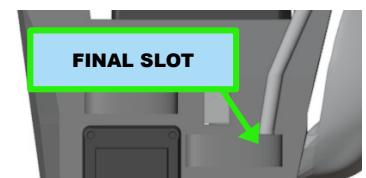

Figure 5.25: Inserting the tube into the final slot (rear view)
2. Take the remaining part (on the rear of the skeleton) and thread it first through the 2 pass-through tunnels and then into the final slot (figure 5.25).